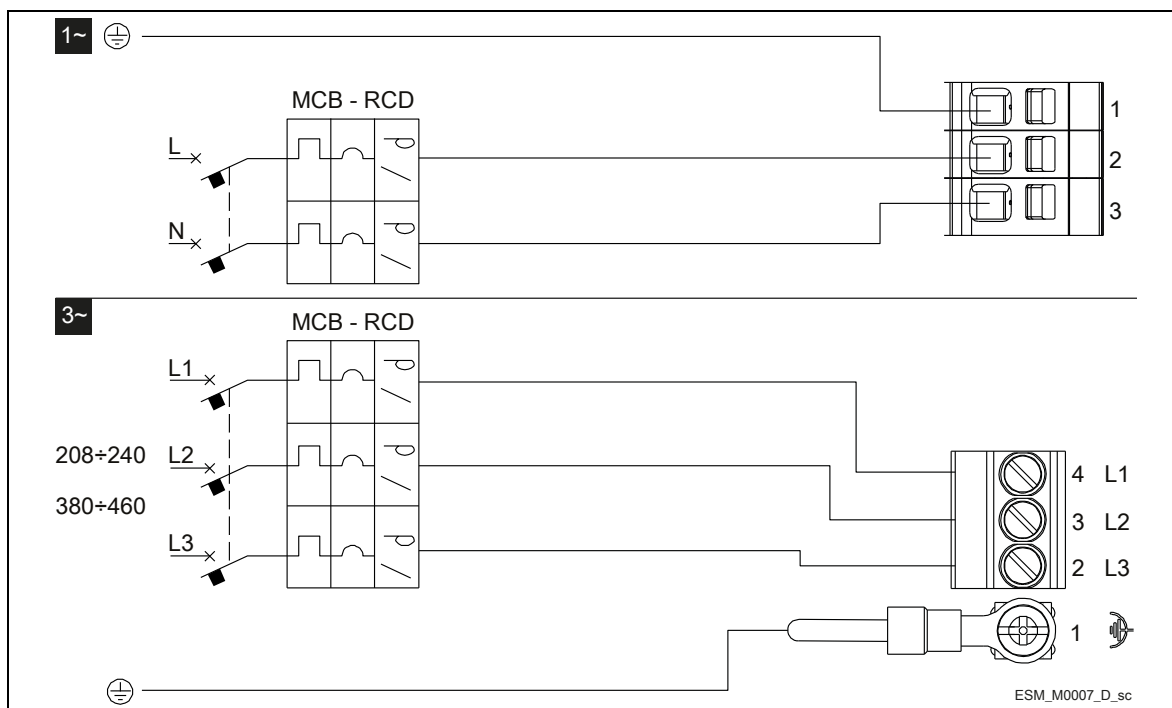

Figure 9: Wiring diagram
2. Insert the power cable in the M20 cable gland (5)
4. Connect the earth conductor (mass), making sure that it is longer than the phase conductors.	Fig. 9